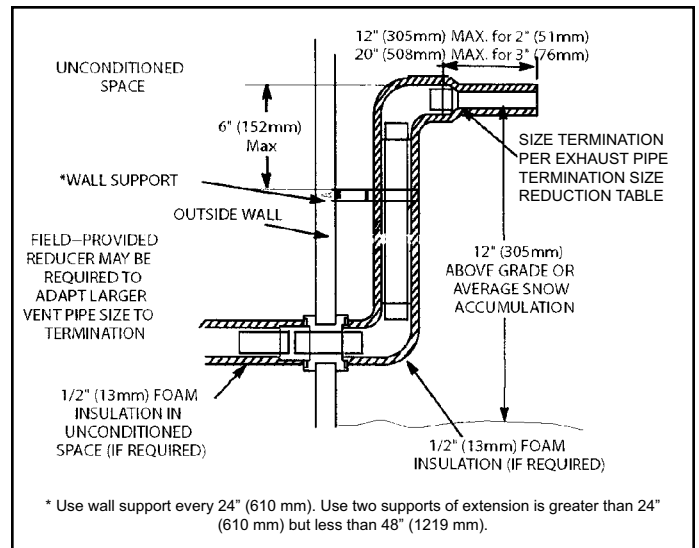

Figure 41. Non-Direct Vent Field Supplied Wall Termination - Extended
3. If exhaust piping must be run up a sidewall to position above snow accumulation or other obstructions, piping must be supported every 24" (610 mm) as shown in Figure 41. When exhaust piping must be run up an outside wall, any reduction in exhaust pipe size must be done after the final elbow.